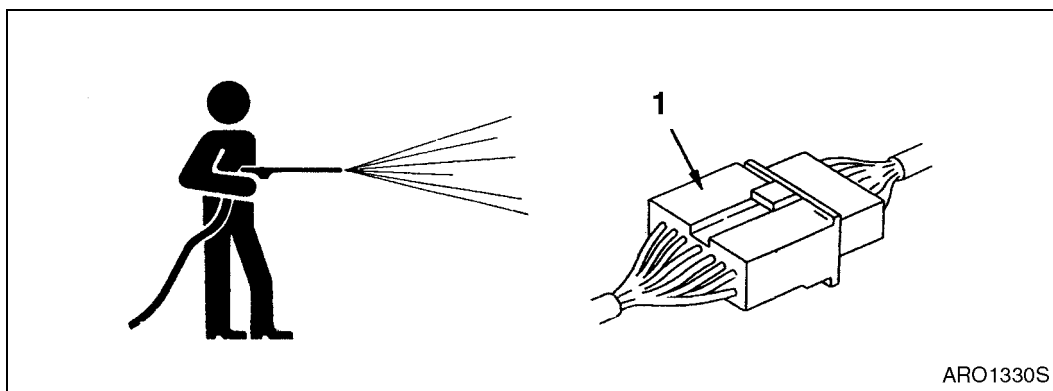

Figure 26
- Do not spray water directly on electrical components (sensors, connector) (1, Figure 26). If water gets into the electrical system, there is danger that it will cause defective operation and malfunction.